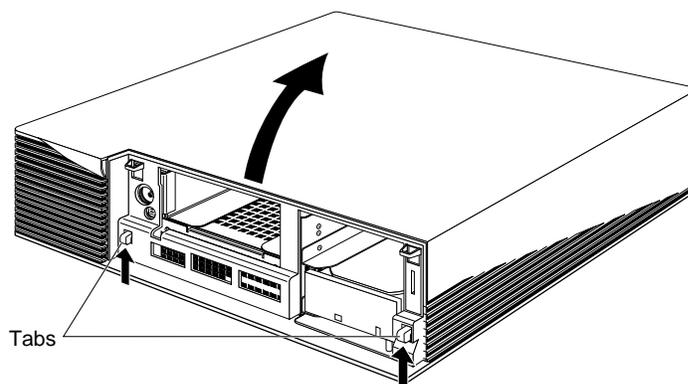

Figure 4 Removing the top cover from the Indigo² chassis.
- Pull up on the cover and rotate it back and away from the chassis, as shown in Figure 4.